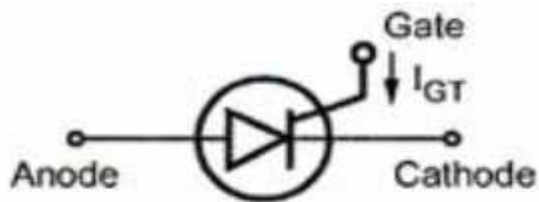

Fig. 5.25 Symbol of SCR
- The Fig. 5.25 shows the symbol of SCR